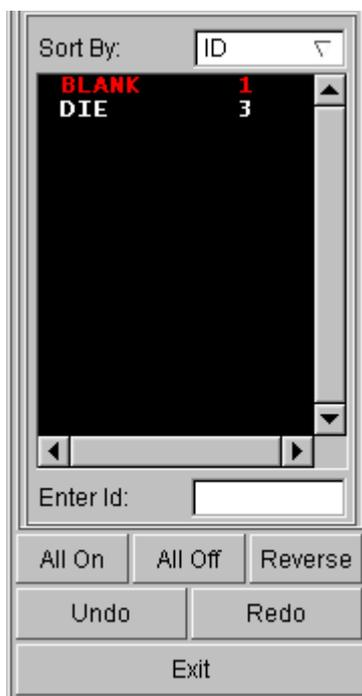

Figure 4.36 Turn parts on/off dialog box
- From **Icon bar**, select  button to display the PART ON/OFF dialog box illustrated in Figure 4.36.